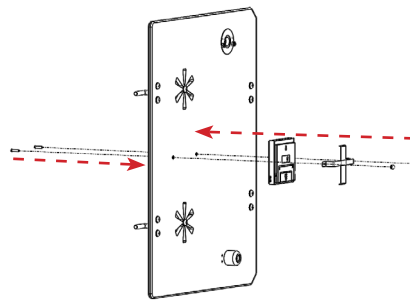

FIGURE 3.7 - Thermometer (Back View)
**STEP 2:** Reinstall the meter using the two screws and acorn nuts to secure the bracket and meter, ensure the meter display orientation is correct. See FIGURE 3.7